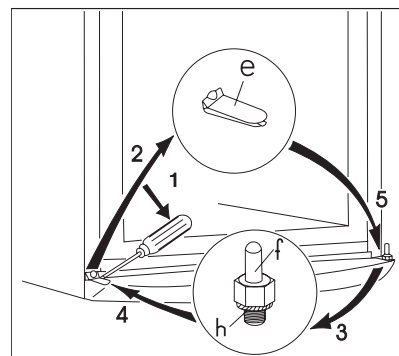

fig. 3.
8. Remove the insert of the plinth (e) by a screwdriver. (fig. 3)
9. Unmount the lower hinge pin (f) and its washer (h) and mount them on the other side. (fig. 3)
13. Fit the freezer door to the lower door hinge pin (f). (fig. 3)